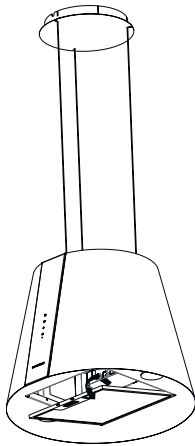

Fig. 7
2. ➤ Open the lock of the metal oil filter (Fig. 7/2) and ensure that it will not fall.
3. ➤ Tilt the metal oil filter forward and lift it out (Fig. 7/2).